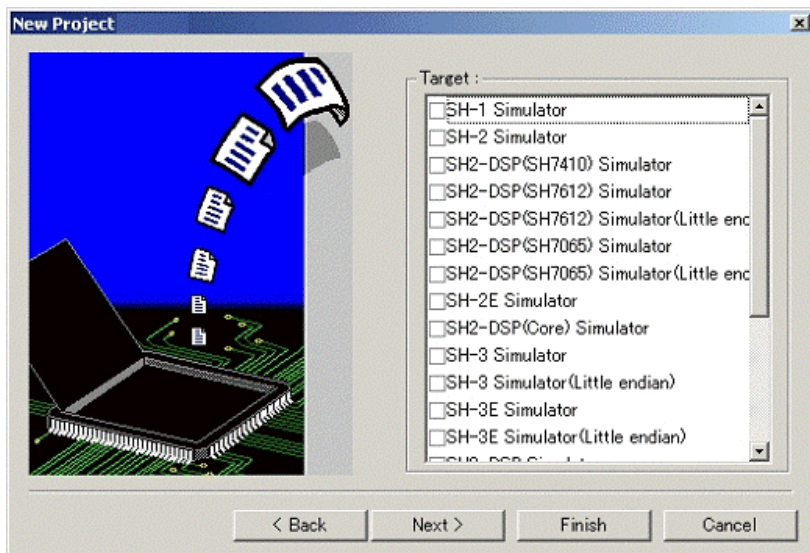

Figure 2.2: New Project Dialog
3. The “Debug Only” project wizard is displayed. The dialog shown in figure 2.2 is displayed.